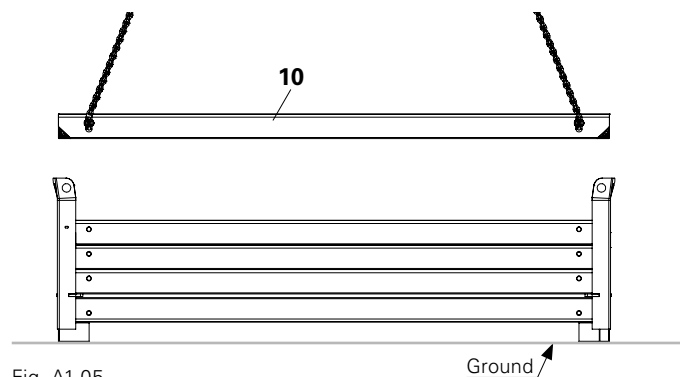

Fig. A1.05
3. Lift panel out of the stacking device. (Fig. A1.05)